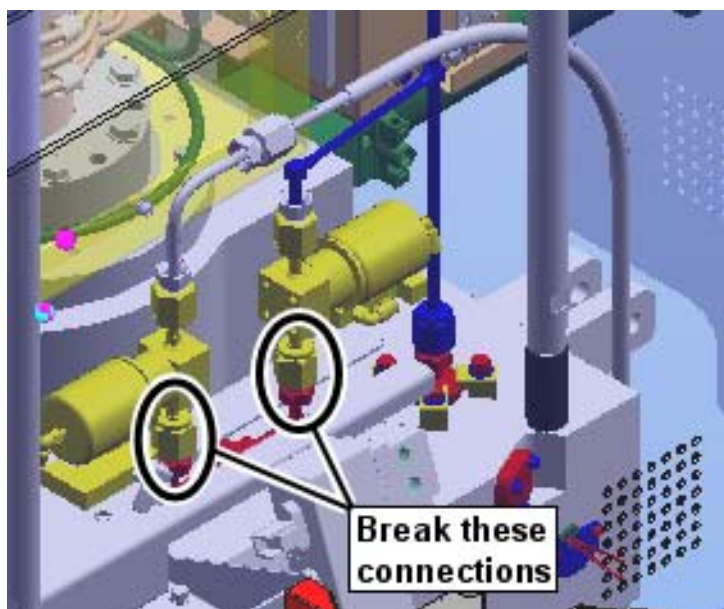

Figure 8-2 Precursor line connections at the process chamber
- 1 Wearing appropriate PPE break the precursor delivery lines above the precursor modules and hinge back the lid and pipe work (see Figure 8-2).